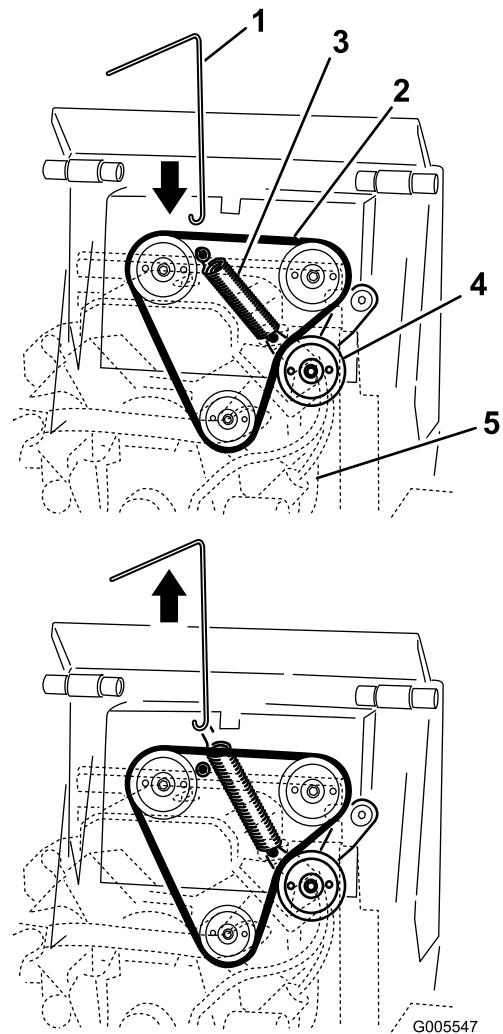

Figure 51
3. Connect the hook on the spring-removal tool to the hook on the idler-pulley spring, and disconnect the spring from the stud as illustrated in Figure 51.